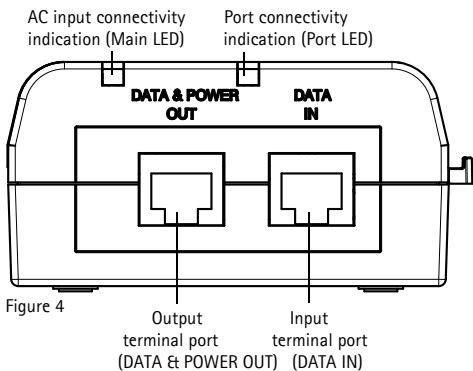

Figure 4
4. Connect the cables from the data switch's patch panel to the Input Ethernet port (DATA IN). See Figure 4.
5. Connect the terminal to the output terminal port (DATA & POWER OUT). See Figure 4.